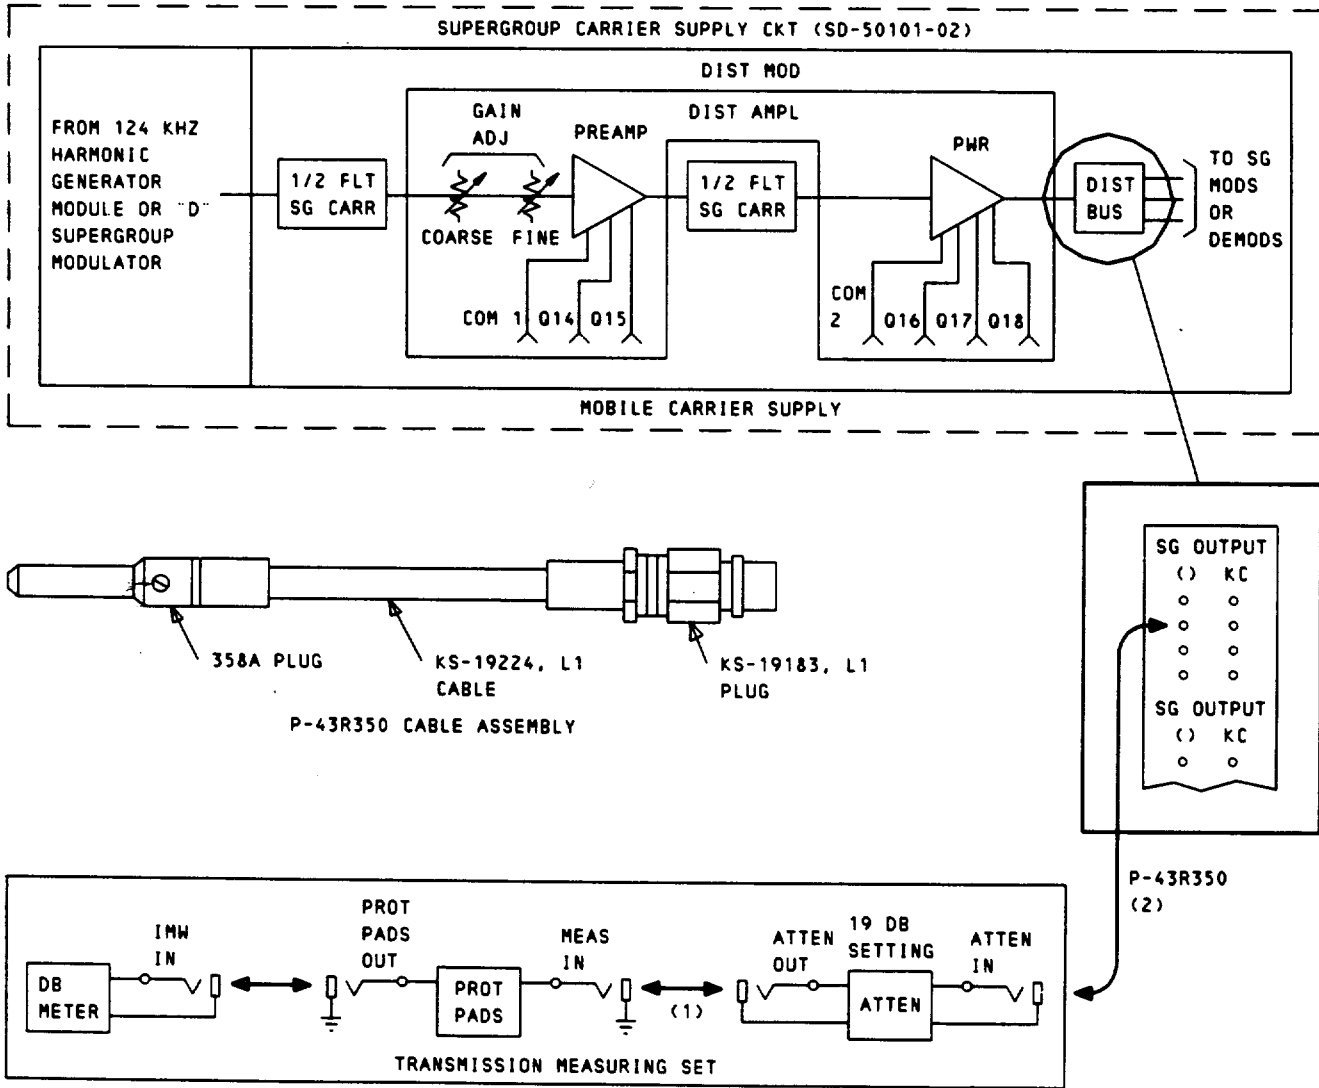

Fig. 3—Supergroup Carrier Supply Power Measurement
17	Make patch (1) in Fig. 3.
19	Make patch (2) in Fig. 3 to the tap from which the termination was removed.